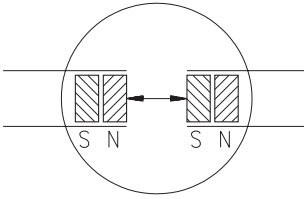

Fig. 14: Determination of the pole position. Joining the magnetic strip
- Check polarity before joining the two parts. Both ends must attract each other (if necessary, use compass needle). In case both ends have the same polarity, shorten one end by a half pole division (fig. 14).